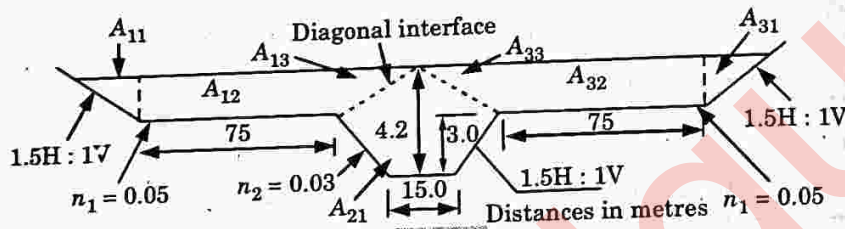

Fig. 1.37.1.
1. The channel section is considered divided into three subsections A_1 , A_2 and A_3 , by means of two diagonal interfaces as shown in Fig. 1.37.1.
By symmetry, Sub-area A_1 = Sub-area A_3 . The diagonal interfaces are shown in Fig. 1.37.1.